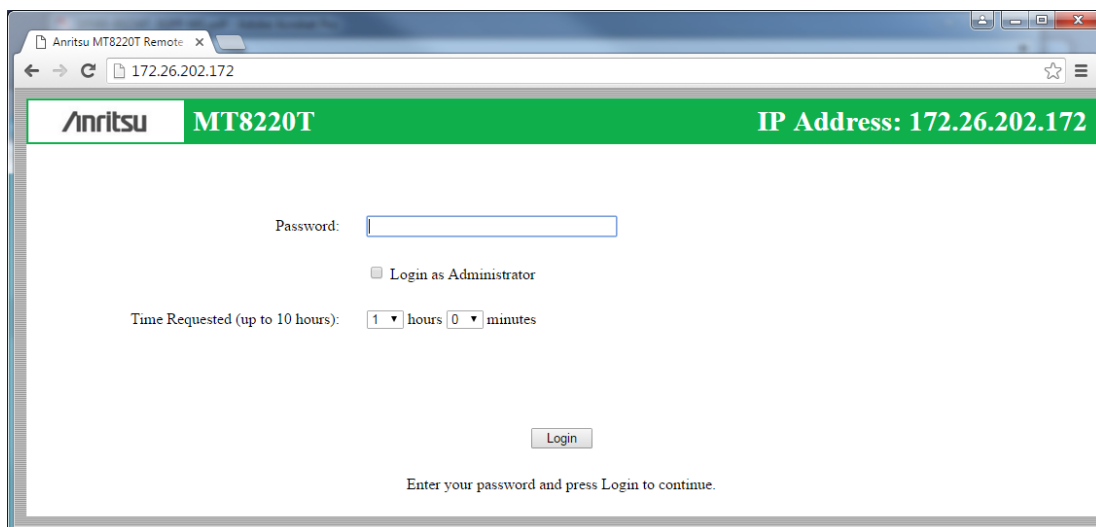

Figure 8-1. Login Page
7. Enter the instrument IP address in the browser address bar to open the Web Remote Control Login page illustrated in Figure 8-1 on page 8-3.
6. In the browser address bar, enter the instrument IP address set in Step 1 to open the Web Remote Control Login page illustrated in Figure 8-1 on page 8-3.
7. Enter the instrument IP address in the browser address bar to open the Web Remote Control Login page illustrated in Figure 8-1.
The Web Remote Control Login page opens following browser connection to the instrument. See Figure 8-1. The page may show or hide certain elements depending on device management options set by the Administrator, as described in “Device Options” on page 8-11.